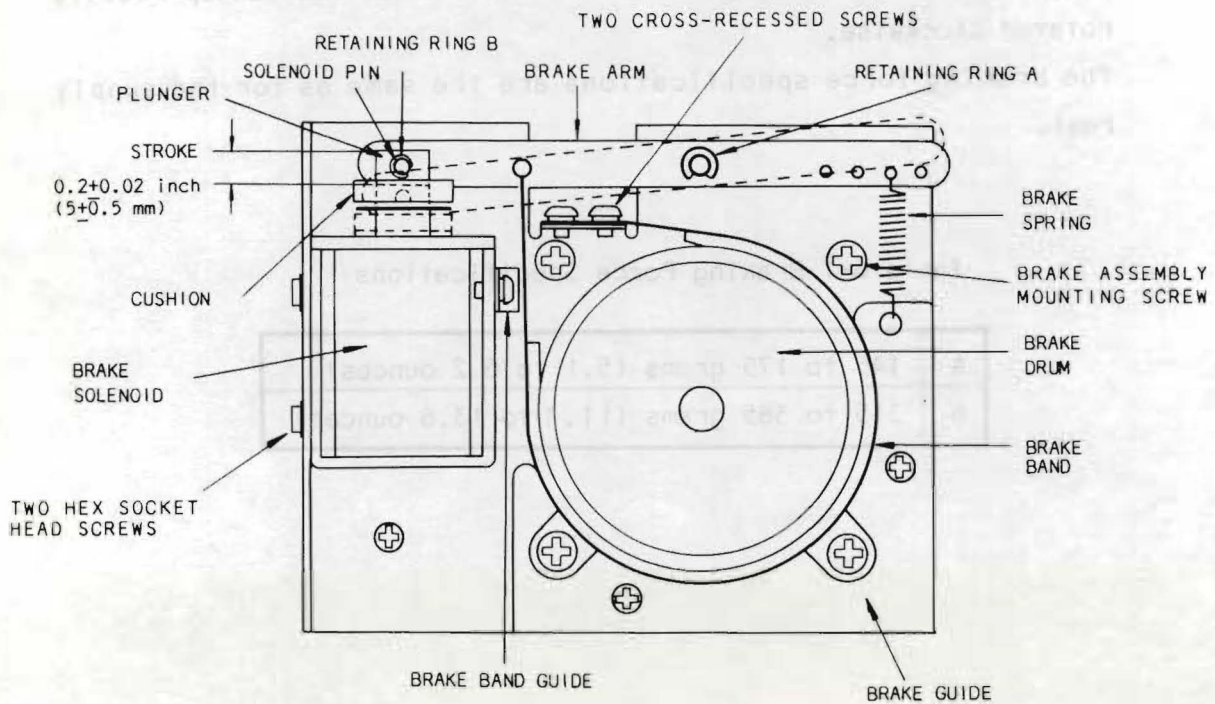

Figure 6-3 Brake Assembly Location
7. If the readings were low in both directions, remove the brake spring (shown in Figure 6-3 ) from the existing anchor hole on the brake lever and install the spring in the next hole located farther away from the brake solenoid.